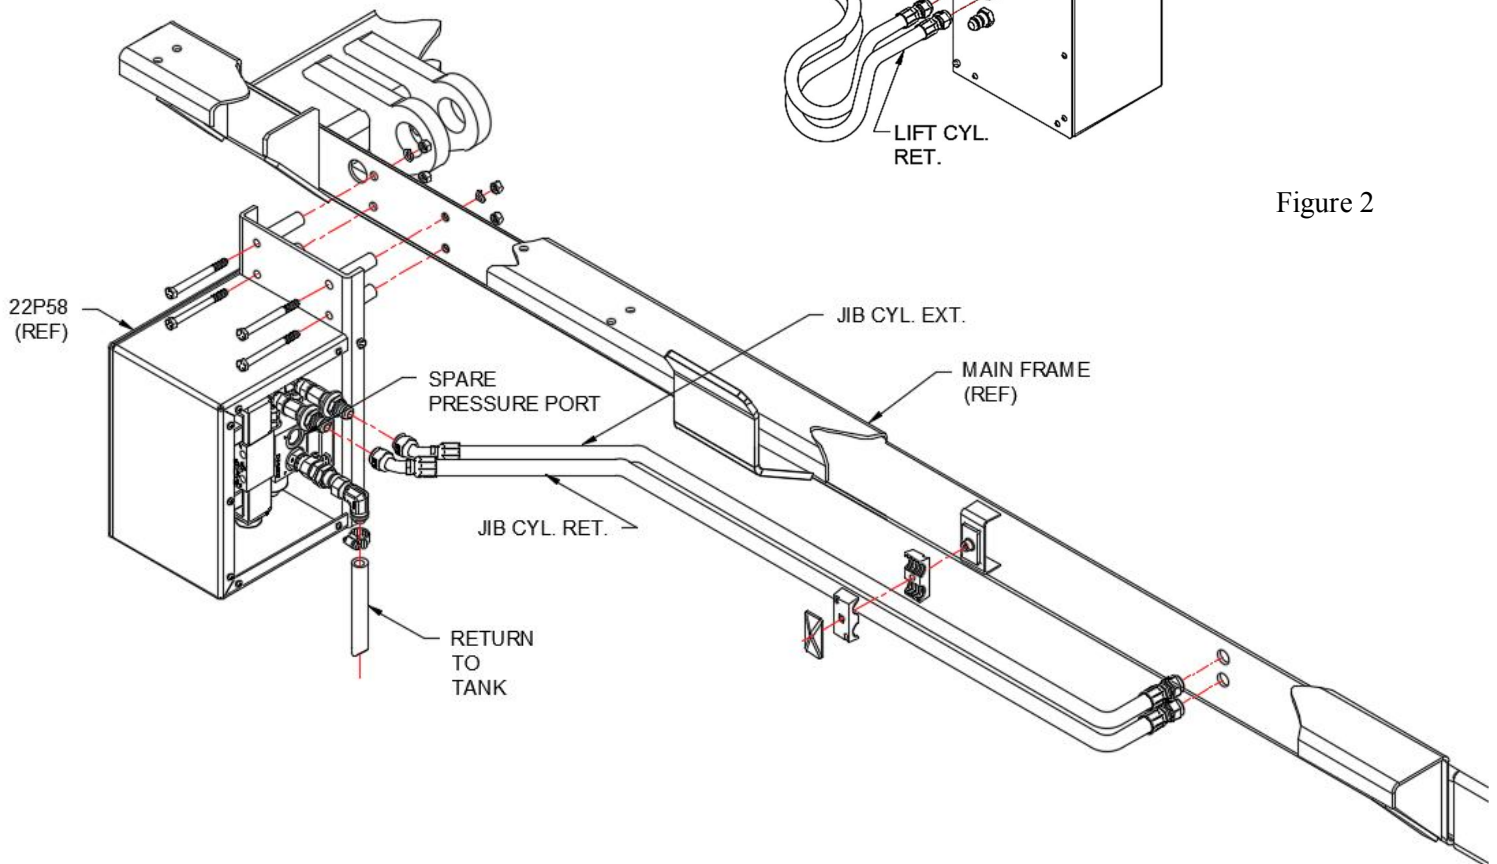

Figure 1
- 2.) Mount the 22P58 EHV to the hoist mainframe and attach all hoses, hose clamp assemblies and fittings as shown on drawing 91H22, 91H23 & 91H27 (also see Figures 1 & 2).